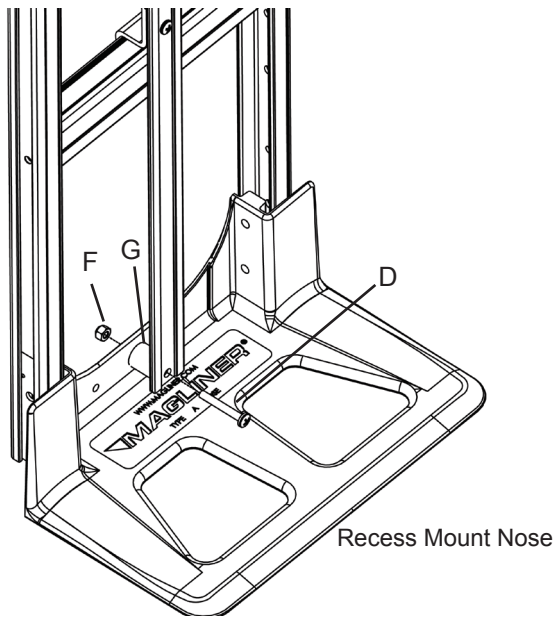
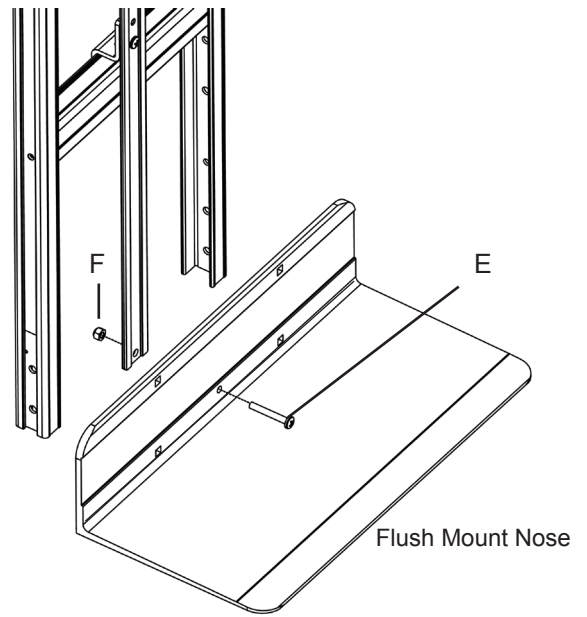
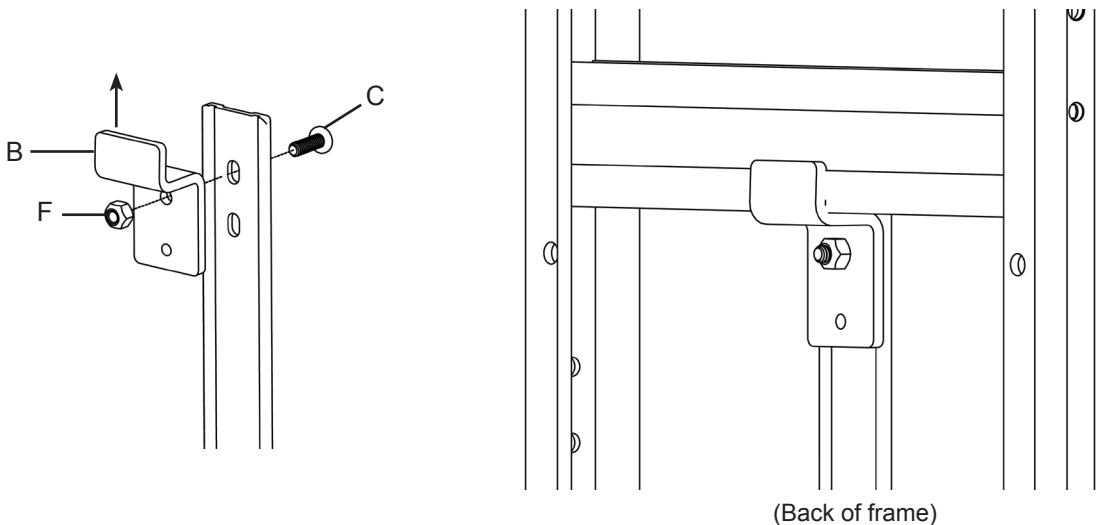

Figure 4a
Figure 4b
Figure 5
3. For recess mount noses (see Figure 4a):
- a. Place the spacer (G) in between the vertical strap and the heel of the nose.
- b. Insert the 1/4"-20 x 1-3/4" long screw (D) through the hole in the nose, through the spacer and through the strap. Fasten with one hex lock nut (F).
4. For flush mount noses (see Figure 4b):
- b. Insert the 1/4"-20 x 1" long screw (E) through the nose and through the strap. Fasten with one hex lock nut (F).
5. Final assembly (for all models; see Figure 5):
- a. Locate the slots at the top of the vertical strap (A). Place one Z-bracket against the back of the vertical strap with the short leg oriented towards the top. Insert one 1/4"-20 x 3/4" long screw (C) through the hole in the Z-bracket and the vertical strap (finger tighten only for now). Adjust the upper Z-bracket upward against the bottom of the top cross brace so that it is secure against the cross brace. Fasten with one hex lock nut (F).